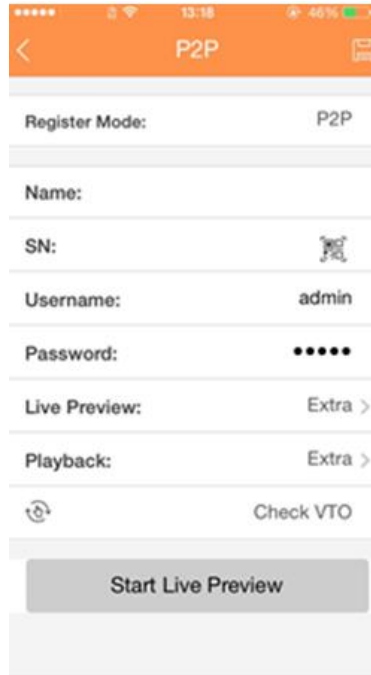

Figure 5-58
3. Tap Device manager button, you can use several modes (P2P/DDNS/IP and etc) to add the device. Click  to save current setup. Tap Start Live preview to view all-channel video from the connected device. See Figure 5-58.